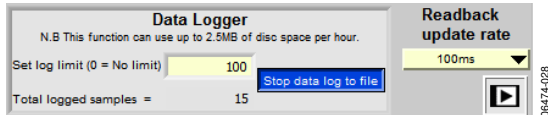

Figure 29. Data Logging
1. Enter the number of times to perform a sample in the **Set log limit (0 = No limit)** text box. The sampling rate is set using the **Readback update rate** drop-down menu, as discussed previously, there are four options to choose from 100 ms, 200 ms, 500 ms, or 1000 ms. In the example in Figure 29, the data logger logs 100 samples, with 100 ms between each sample.